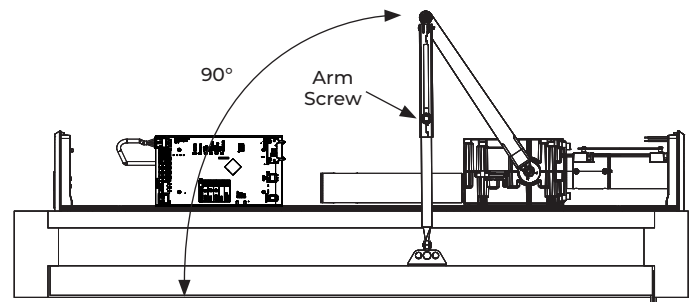

Fig. 16 View: Looking up from floor
3. With door fully closed, rotate main arm toward latch edge of door until arm tube is at 90° angle (perpendicular) to door. (Fig. 16)
4. Use arm screw provided with main arm to secure tube to forearm rod. (Fig. 16)